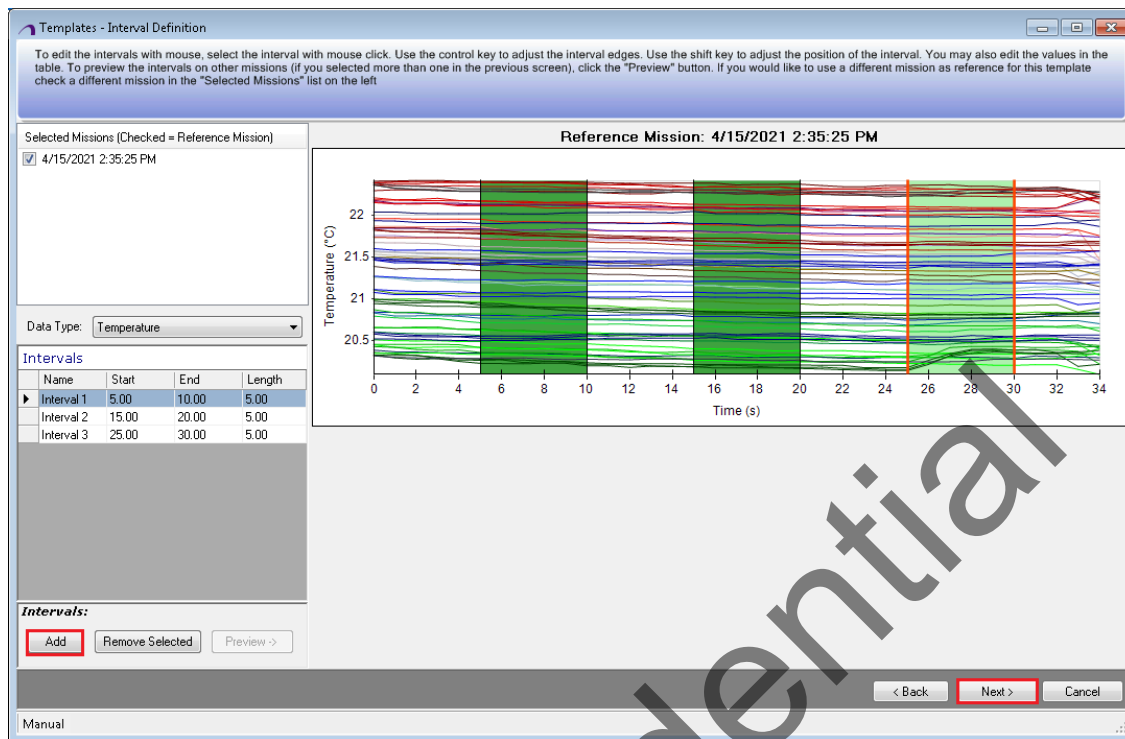

Figure 6-3 Templates - Interval Definition Window
- Click the **Next>** button after a reference mission is selected. The **Templates – Interval Definition** window opens, as shown in Figure 6-3.